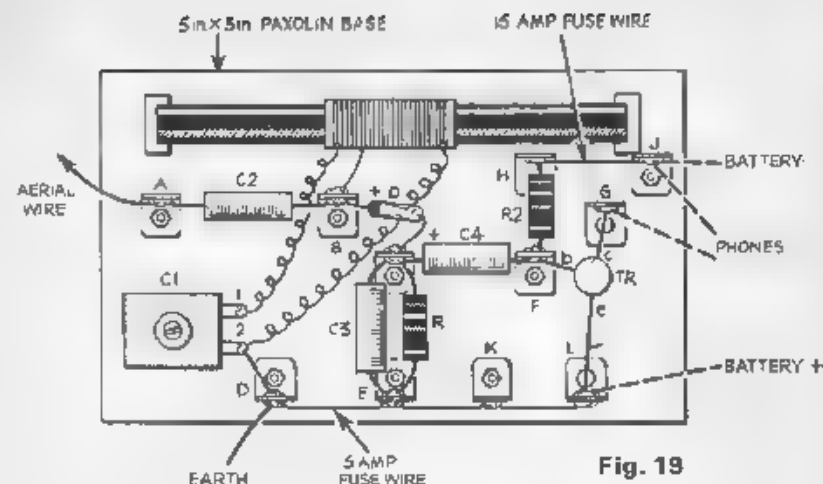
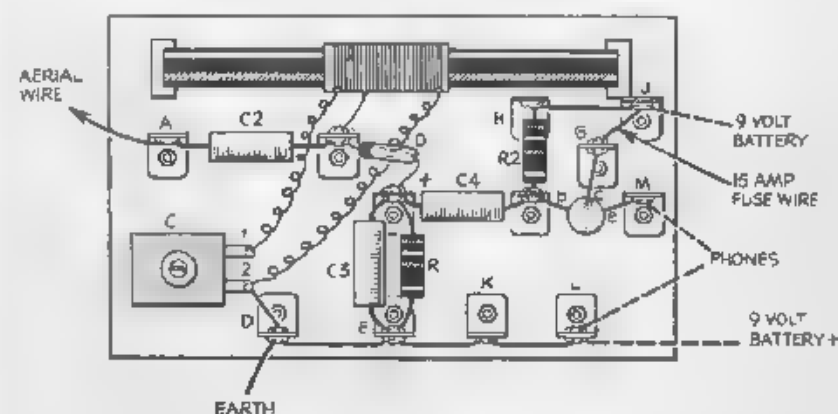
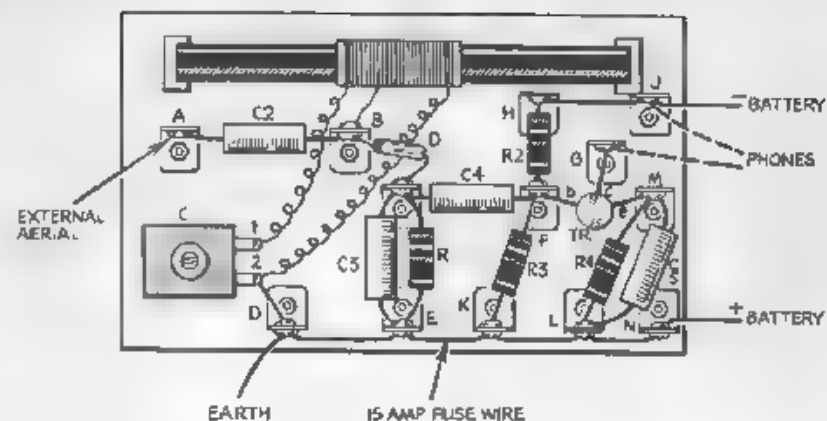

Fig. 19
Fig. 21
Fig. 23
Fig 19 shows the same circuit drawn as a wiring diagram, with the position of the components and the connections. The Paxolin panel is the same size as before, but is drilled and fitted with seven additional solder tags—E, F, G, H, J, K and L, positioned as shown.
The wiring diagram for this circuit (*fig 21*) is the same as *fig 19*, except that one additional solder tag is required—M
The component layout and a wiring diagram (*fig 23*) has the same placing of solder tags as *fig 21* except for the addition of one more tag (N). You should have no difficulty in completing this circuit and getting it to work properly.